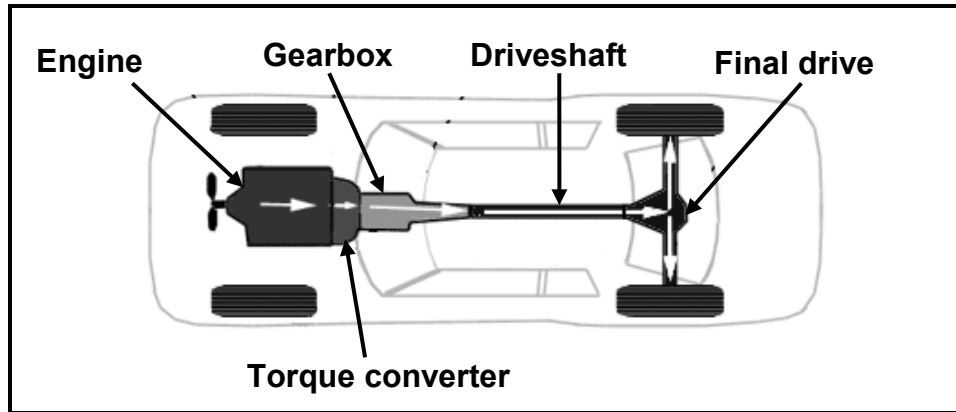

FIGURE 9.2.1
9.2 FIGURES 9.2.1 and 9.2.2 below show two basic types of layouts of automatic-transmission drives. Identify the TWO types of layouts.